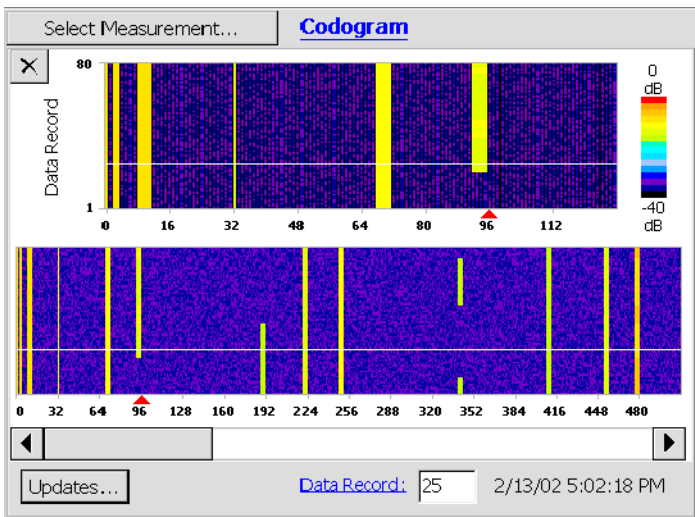

Figure 3-56: W-CDMA Codogram display
4. Tap **Codogram**. See Figure 3-56.